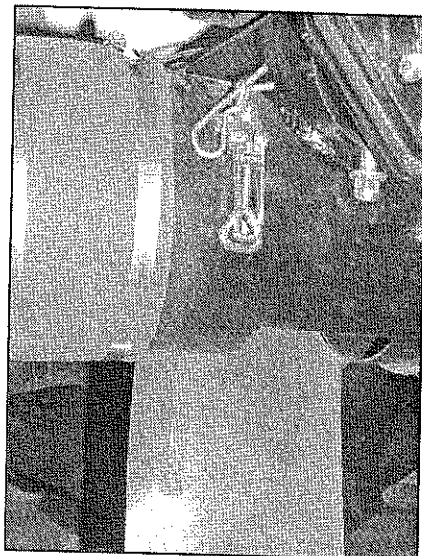

Figure 2.10 - Calibration Port, Open
4. Open the cleanout cover(s) from the bottom of the metering auger(s). Refer to *Figure 2.10*. The 4" Granular Line on the LDG Air Seeders does not have a cleanout cover, loosen the bottom connection of the 4" flexible hose and drop product directly into the calibration box.